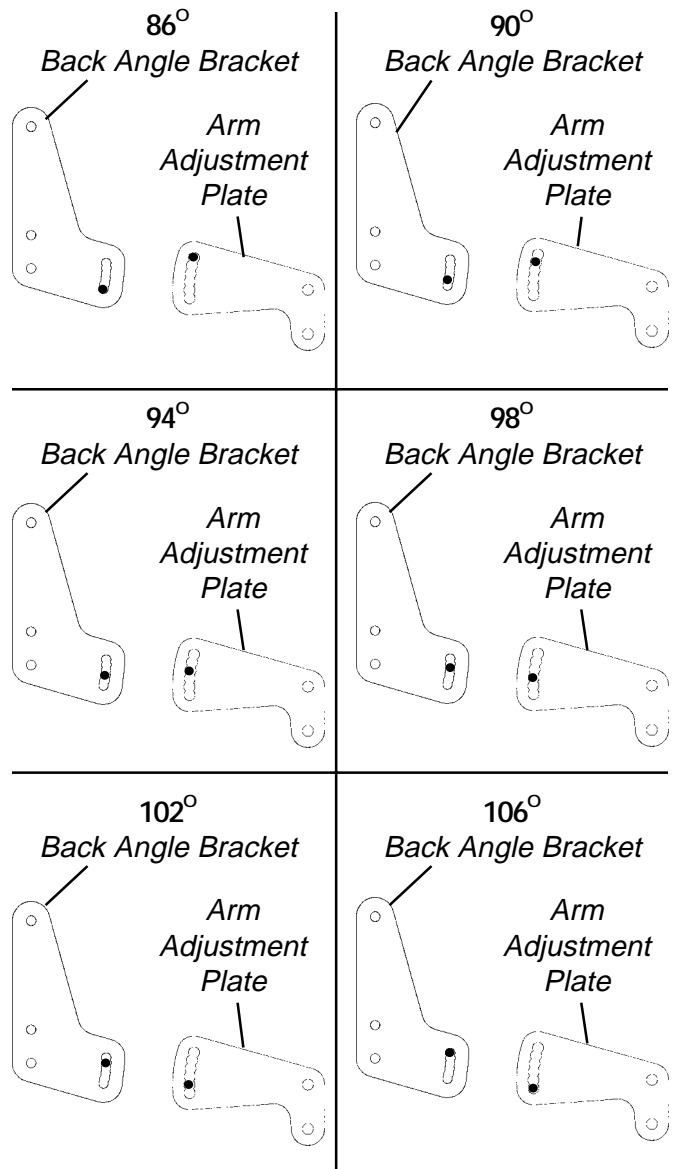

FIGURE 3 - CORRESPONDING ARM ADJUSTMENT TO BACK ANGLE
3. Refer to FIGURE 3 to determine the mounting hole in the arm adjustment plate that will be used to correspond to the back angle.